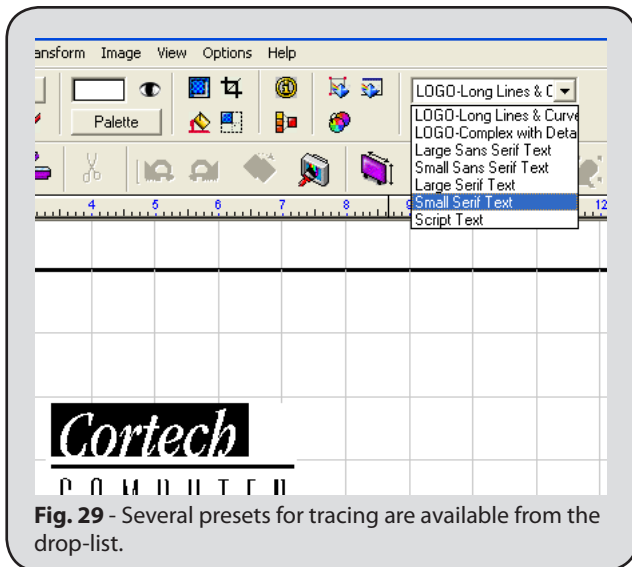

Fig. 29 - Several presets for tracing are available from the drop-list.
4. From the **Save Settings** drop-list, choose the “Small Serif Text” item (Fig. 29).